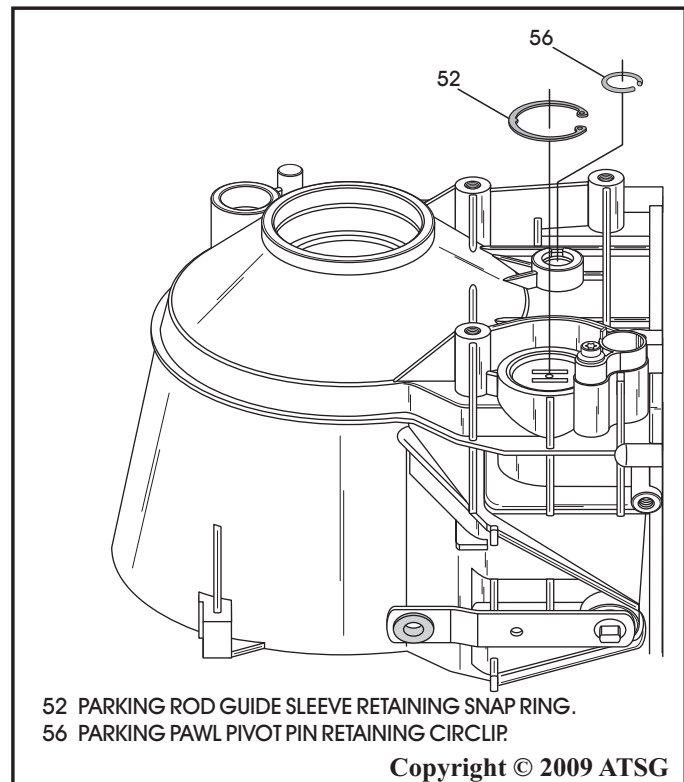

Figure 60
12. Rotate transmission case so that rear is facing up, as shown in Figure 60.
13. Install the circlip and the snap ring, as shown in Figure 60, and ensure fully seated.